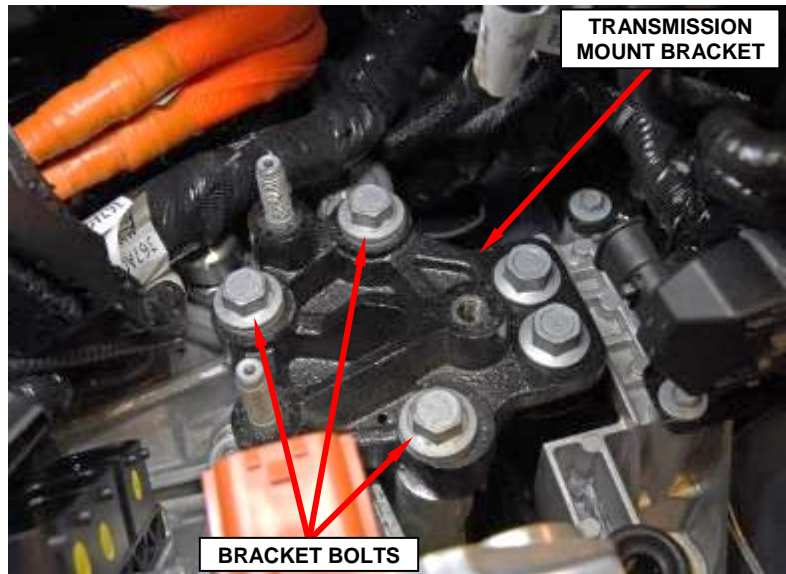

Figure 35 – Left Side Transmission Mount Bracket
- 62. Remove three bolts from the left side transmission mount bracket (Figure 35).
3. Using the floor jack, raise the transmission and install the three bolts to the LH engine (transmission) mount bracket. Tighten the bolts to 105 N·m (77 Ft. Lbs.) (Figure 35). Remove the floor jack from the vehicle.